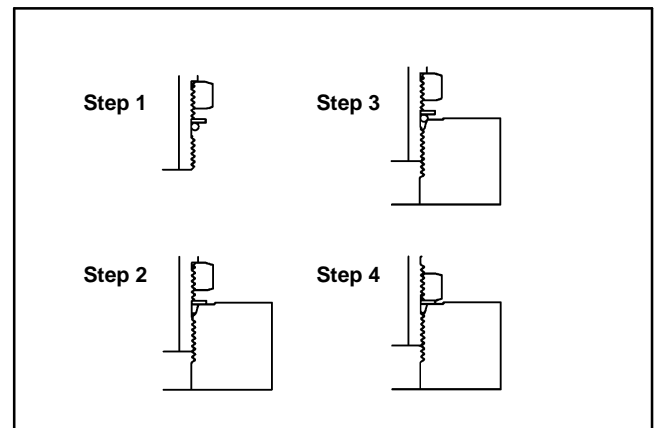

Figure 7
4. Turn back the lock nut as far as possible. Make sure the back up washer is not loose and is pushed up as far as possible (Step 1 in Fig. 7).